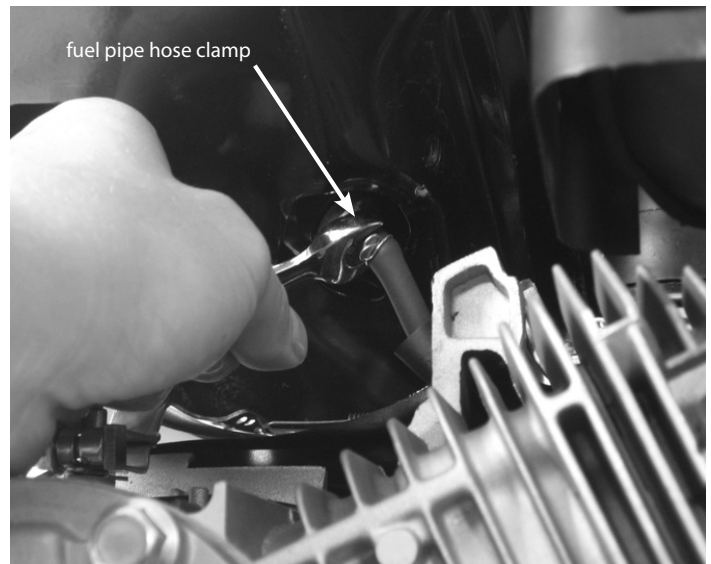

Figure 11
6. Gently lift tank off of engine and disconnect the hose clamp. **SEE FIGURE 11 and 12.**